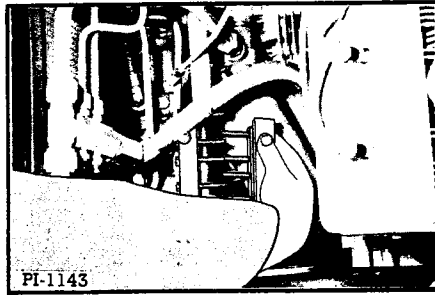

Fig. 33 Removing Jackshaft Connector
2. Remove the split jackshaft connector (Figure 33). The connector must be replaced in the same position as it was before removal. Matched ends are punch marked. Keep the marked ends of the block toward the sheave.